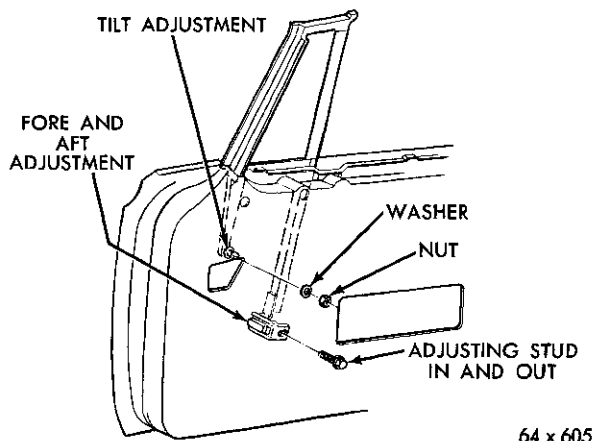

Fig. 79—Vent Wing Adjustments (Imperial)
Adjustment (Figs. 79 and 80)—(Imperial)
(1) Insert the vent wing assembly down into the door frame.
(2) Install the vent wing attaching screws finger tight.
(3) Install the vent wing lower adjusting screw lock nut and washer.
(4) Close the door and inspect the vent wing alignment with the "A" post and the roof rail weather seal.
(5) Correct any misalignment (Fig. 79) and tighten the attaching bolts and adjusting screw lock nut.
(6) Install the watershield trim panel (connect the wires to the control switch) and the inside handles.